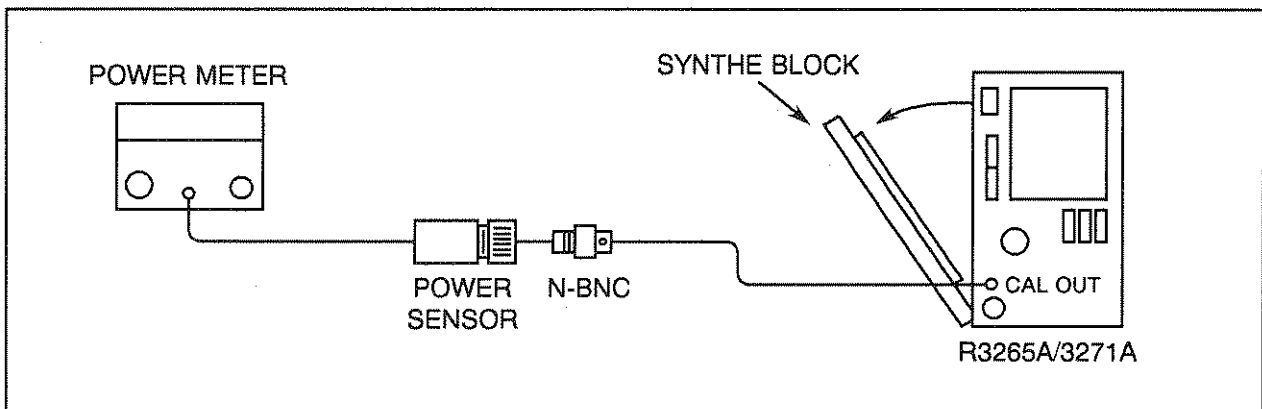

Figure 5-13 Calibrator Amplitude Adjustment Setup
- (1) Turn off the POWER switch of the R3265A/3271A, and disconnect the power cord. Remove the analyzer cover, place the analyzer as shown in Figure 5-13, and fold down the SYNTH BLOCK assembly.
- (2) Turn on the POWER switch of R3265A/3271A, and warm it up at least 30 minutes before starting adjustment.
- (3) Zero and calibrate the power meter in the Log Display mode. Enter the 25MHz CAL FACTOR signal of the power sensor to the power meter.
- (4) Connect the R3265A/3271A through an N-BNC adapter directly to the CALOUT jack on the R3265A/3271A front panel.